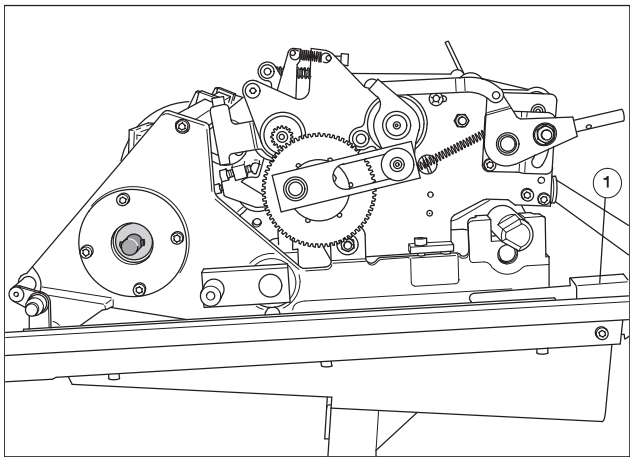

Fig. 61 Numbering slide-in unit ratchet pawl
7. Check whether the ratchet pawl is engaged at the slide-in carriage (Fig. 61/1).